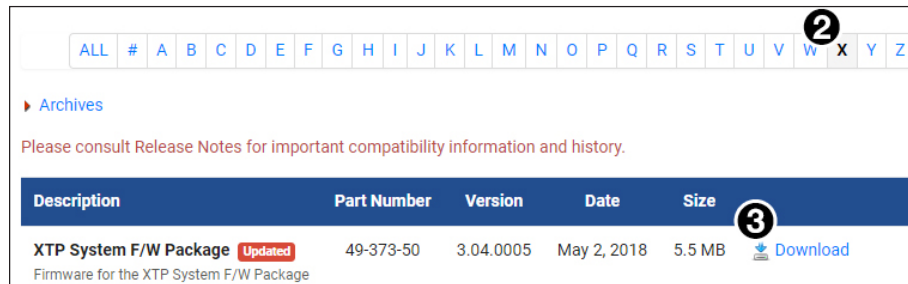

Figure 35. Downloading Firmware from the Extron Website
2. Navigate to the desired product (see figure 35, ②).